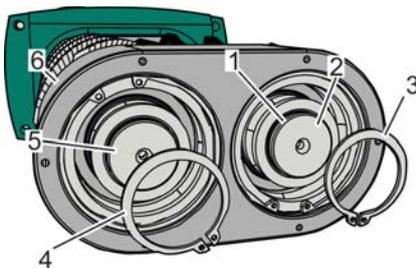

Fig. 78: Mounting the bearing housing, example
6. Insert the outer retaining rings (Fig. 78/3, 4) into the grooves (Fig. 78/1) of the drive shafts (Fig. 78/2, 5).